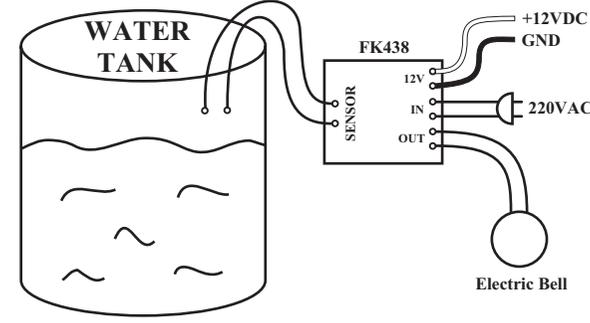

Figure 4.
1) In case of setting the alarm when water decrease, (See Figure 4), jump BZ and RY to L position. Connect the electric wire between sensor point and the water level point. When the water is lower than the set level, relay and alarm will be working. If the water is higher than the set level, both relay and alarm will not working.
2) In case of setting the alarm when water overflow, (See Figure 4), jump BZ and RY to H position. Connect the electric wire between sensor point and the water level point. When the water is higher than the set level, relay and alarm will be working. If the water is lower than the set level, both relay and alarm will not working.